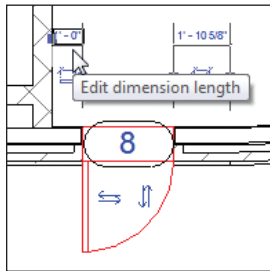

FIGURE 2.69 Changing the temporary dimension
- As you know, in Revit Architecture anything that turns blue can be edited. Click on the blue dimension that extends from the CMU wall, drag it to the right of the elevator shaft, and change it to 1'-0" (see Figure 2.69).